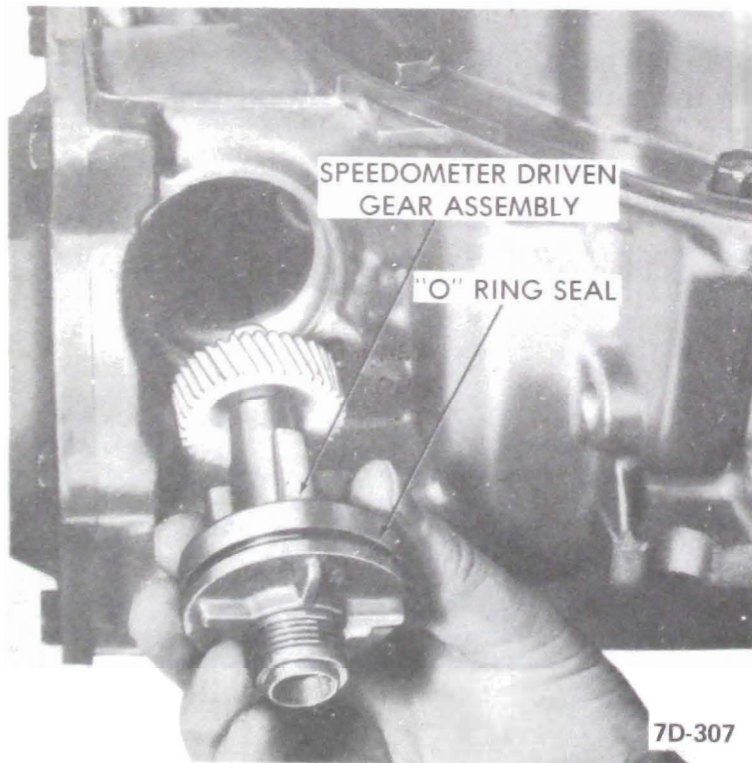

Figure 7D-307
1. Install the speedometer driven gear assembly. See Figure 7D-307.
2. Install the speedometer driven gear retainer and attaching bolt. See Figure 7D-308.